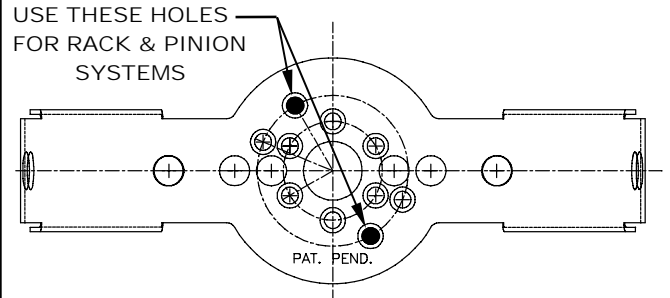

FIGURE 1b
**Step 2.** Using the template provided, mark the plastic bezel and drill two 3/16" diameter holes (see Figure 1b).